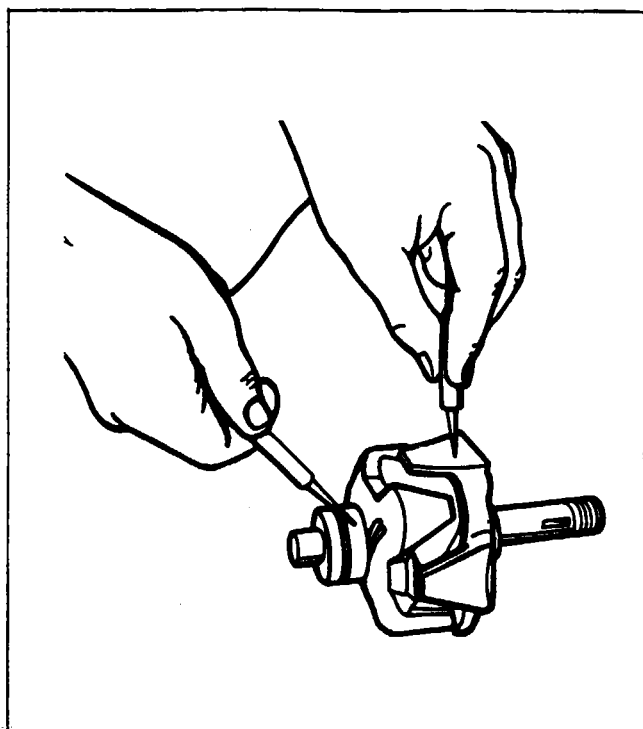

Figure 11-40. Testing Rotor for Grounds
a. Rotor: The rotor should be tested for grounded or shorted windings. The ground test can be made with test probes, connected in series with a 110-volt test lamp, an ohmmeter or any type of continuity tester. (Refer to Figure 11-40.) There must not be any continuity between the slip rings and the rotor shaft or poles. To test for shorted turns in the rotor winding, connect a voltmeter, ammeter and rheostat as shown in Figure